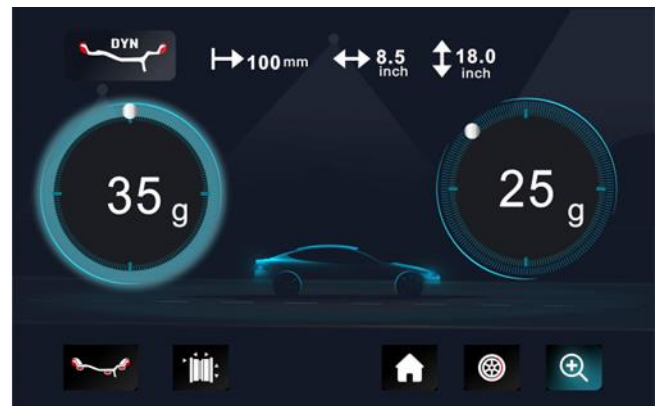

Fig. 4
4.1.7. Press  until the left LED fully lights up. Clip weight on the 12 o'clock position (Fig. 4)